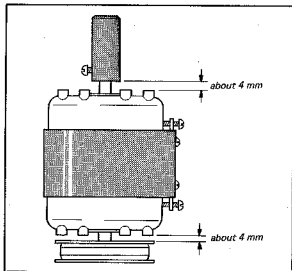

Fig. 4-18.
9. Install the top (knurled) drive pulley on the upper motor shaft. Space the bottom edge of the pulley about 4 mm from the top of the motor as shown in Fig. 4-18.